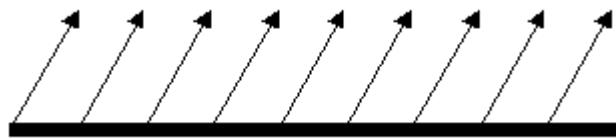

Figure 17: Ascending sequence building
- For ascending sequence building, scheduling is carried out in an ascending fashion starting with a machine with the smallest sequence attribute. When the maximum is reached, it is started once again with the smallest. The sketch in Figure 17 shows the process.